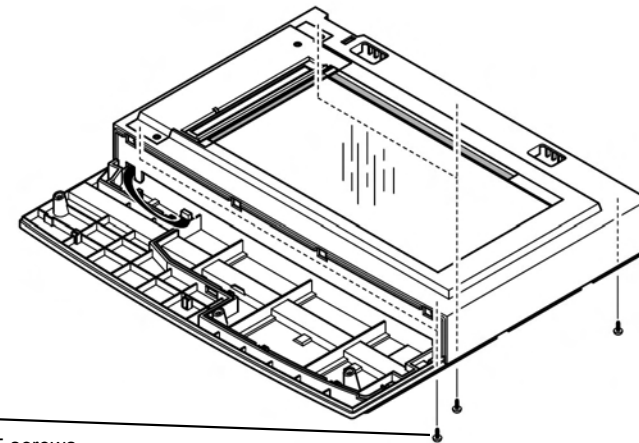

Figure 8 Screw removal
10. Remove the five screws securing the ELA HOU scan upper assembly, Figure 8.